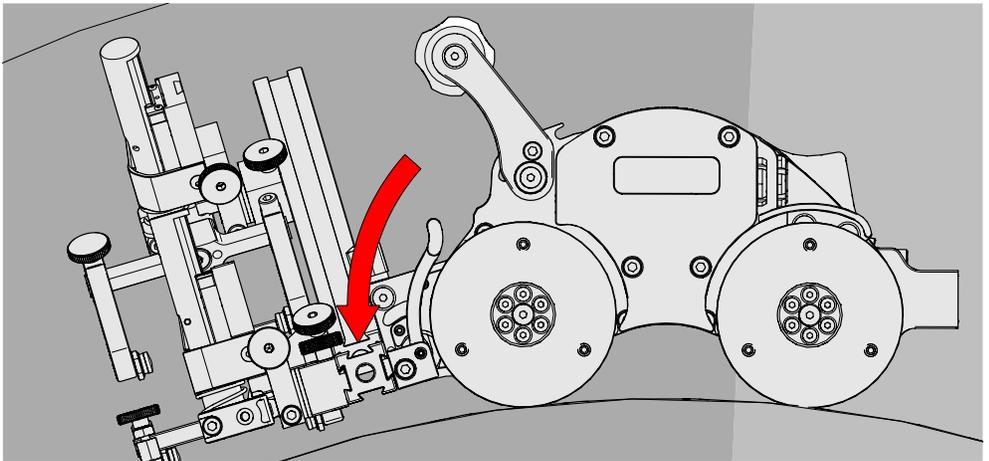

Fig. 191 - Align swivel mount with scan surface
3. Release the front swivel mount adjustment levers to align the swivel mount parallel to the scan surface (Fig. 191).